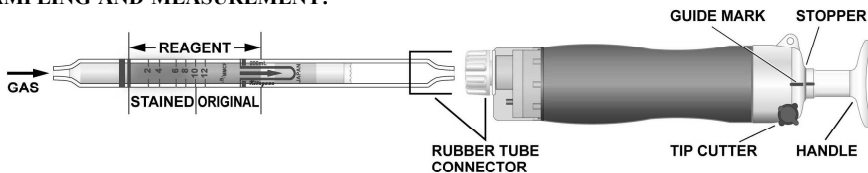

Fig.1
- ② Insert the detector tube into the aspirating pump securely as shown in Fig.1. (Arrow mark shall point to the pump.)
- ③ Align the guide marks on the shaft and stopper of the aspirating pump.
- ④ Pull the pump handle at a full stroke until it locks and wait for 1 minute or until confirmation of sampling is completed with the flow indicator of the pump. (See descriptions about the flow indicator in the instruction manual of the pump.)
- ⑤ Turn the pump handle right or left by 1/4 (90°), push back the handle without removing the detector tube from the pump. Then repeat the steps ③ to ④ once more.
- ⑥ On completion of sampling, read the scale at the top of the stained layer.